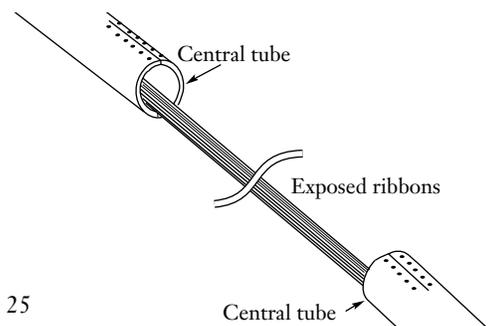

Figure 25
**6.17** Follow the UAT II or III instructions to access the ribbons. After using the UAT and Ideal tool on the central tube, the end result will look like Figure 25.